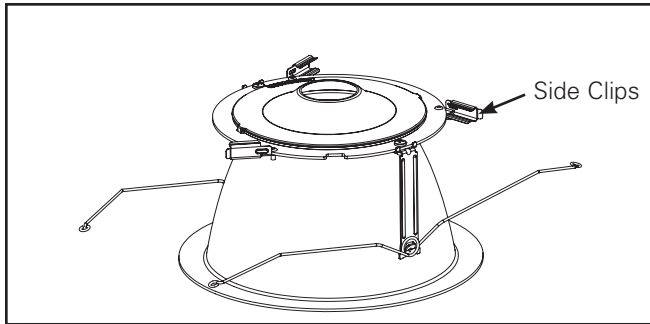

Figure 32
3. Remove trim assembly from protective packaging and rotate side clips (3) outwards. (Figure 32).